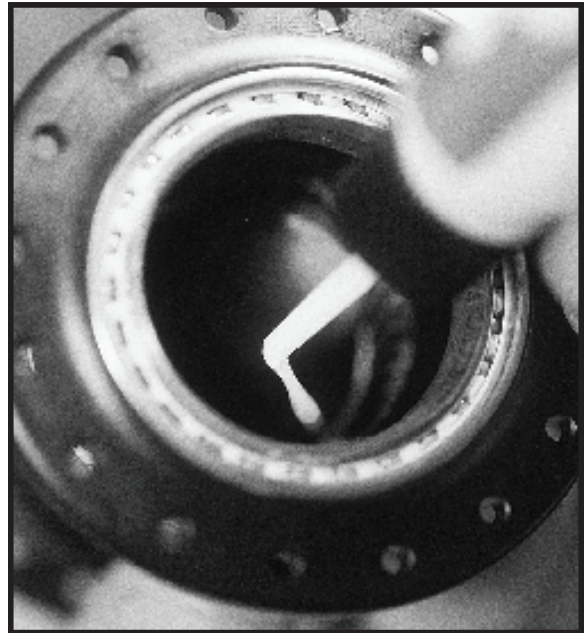

Figure 13 - lube RingDrive™ teeth
5. Lubricate by reopening a gap between the drive rings, and laying a bead of RingDrive™ grease on the teeth between them (see figure 13).